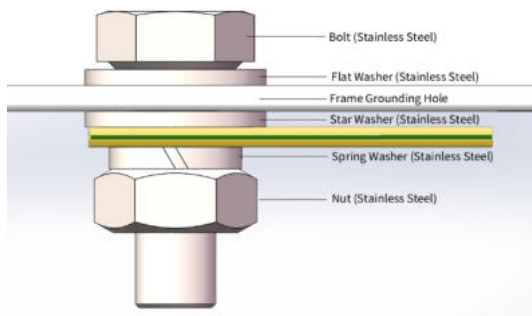

Figure 21 Schematic diagram for installation of grounding wire fastened by bolt
- When connected in parallel, the output current of the whole string of modules is equal to the sum of the current of each branch module or module string (the parallel connection mode is shown in Figure 21). Each string of modules shall be equipped with a fuse. The reference formula for the maximum number of modules in parallel connection: maximum protective current/($1.25 \times$ short-circuit current). Please refer to the national or regional or local specifications for details.